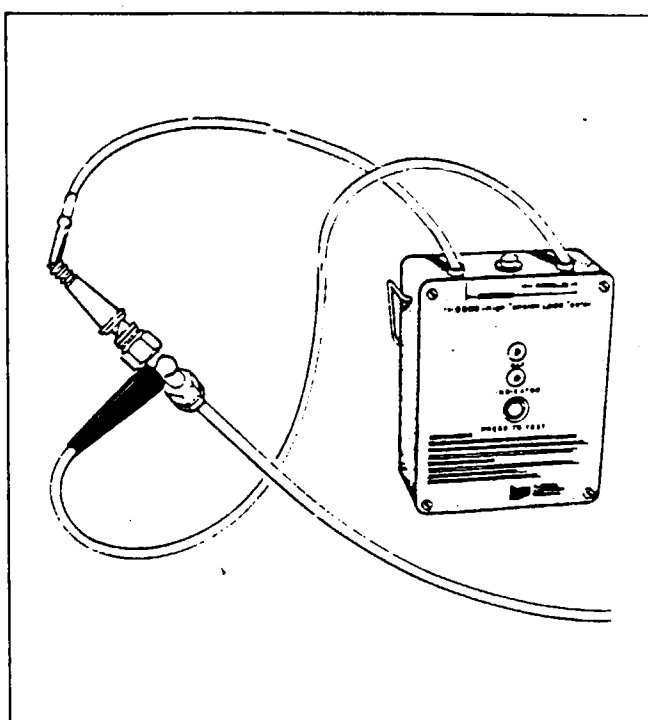

Figure 74-11. Checking Harness Lead Insulation Resistance
- A. Attach the red high voltage test lead to contact spring of harness lead. (Refer to Figure 74-11.)
- B. Attach the black test lead to the ferrule of the same harness lead. (Refer to Figure 74-11.)